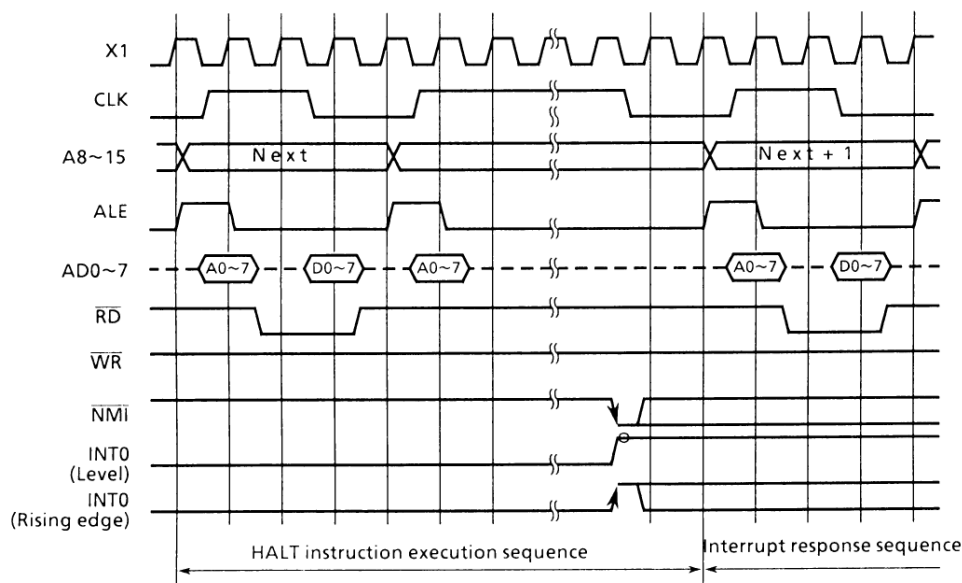

Figure 3.4 (3). Halt Release Timing Using Interrupts in the IDLE1 Mode
The timing used for releasing the halt state by interrupts in the RUN/IDLE2 mode is shown in Figure 3.4 (2).